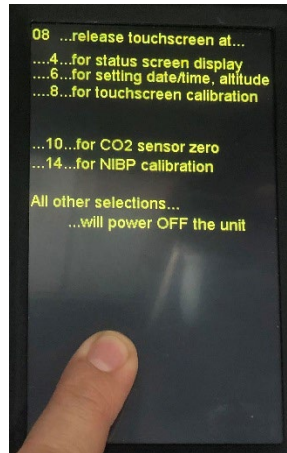

Figure 1
2. To enter the setup mode, press your thumb or finger gently on the screen and then turn the unit ON while continuing said pressure on the screen. When the counter in the upper left reaches exactly 8, release your thumb or finger from the screen and follow the screen instruction (See Figure 1).